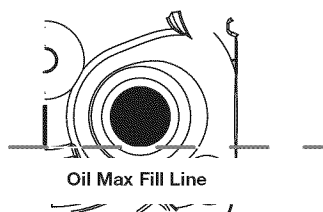
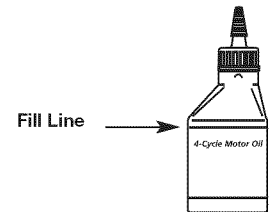

Fig. 14
Fig. 18
5. Look into the oil fill hole, use a flashlight if needed. The oil should be just touching the inner most thread (Fig. 14).
NOTE: Use the bottle and spout saved from initial use to measure the correct amount of oil. The top of the label on the bottle measures approximately 3.04 fl.oz. (90 ml) (Fig. 18). Check the level, See Checking the Oil Level. If the level is low, add a small amount of oil and recheck. Do not overfill (Fig. 14).